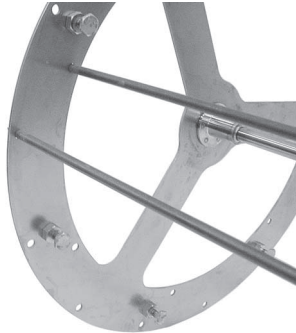

Fig. 14
1. Place pointed ends of fork spit into appropriate holes on the non-drive side of the rotor (Fig. 14).